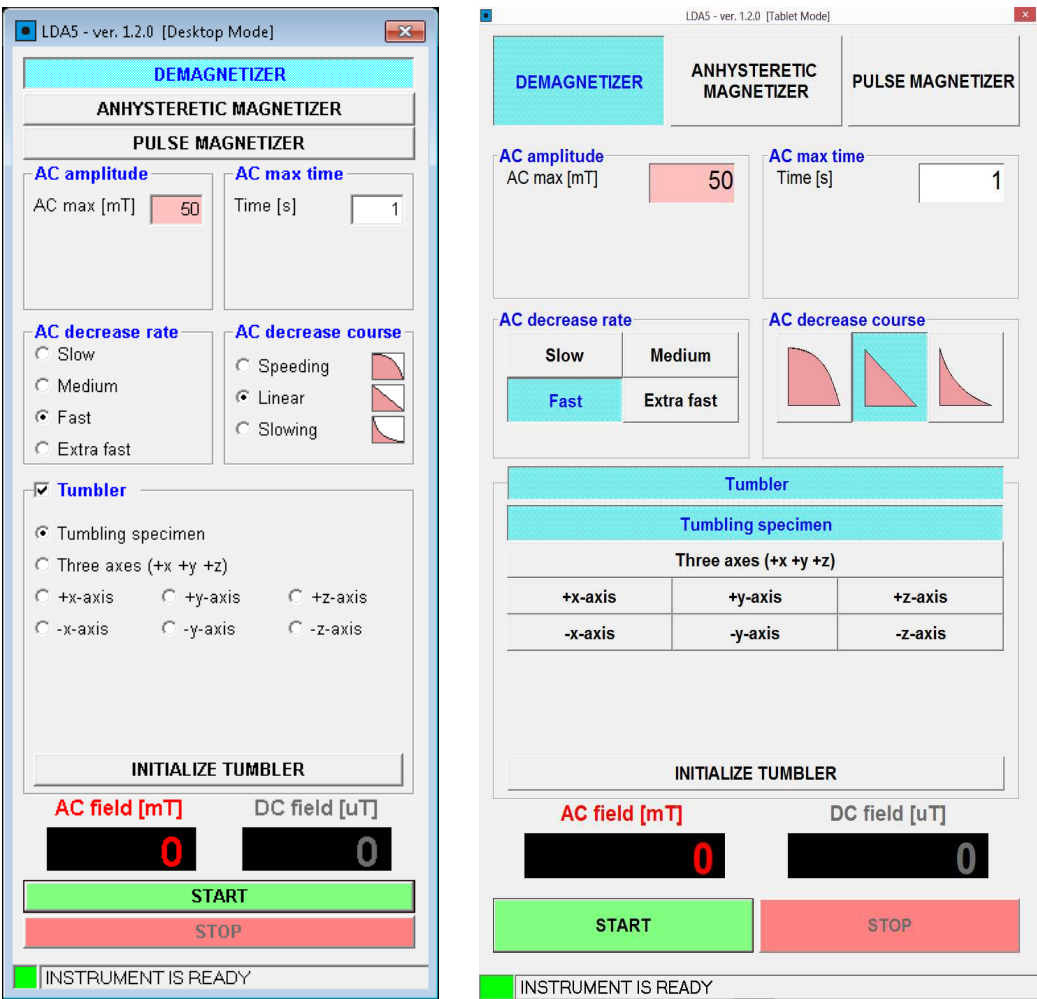

Figure 6: An example of the **DEMAGNETIZER** user interface in the Desktop or Tablet installation modes.
Switch the instrument into the **DEMAGNETIZER** mode (Section 5.2) and set the desired demagnetization parameters (Figure 6):
7. **AC field** is quickly increased to its maximum amplitude, AC_{\max} , maintained constant for a desired time, and then gradually decreased to zero (Figure 7). The current **AC field** amplitude is displayed in the **RED** panel of the user interface (Figure 6).